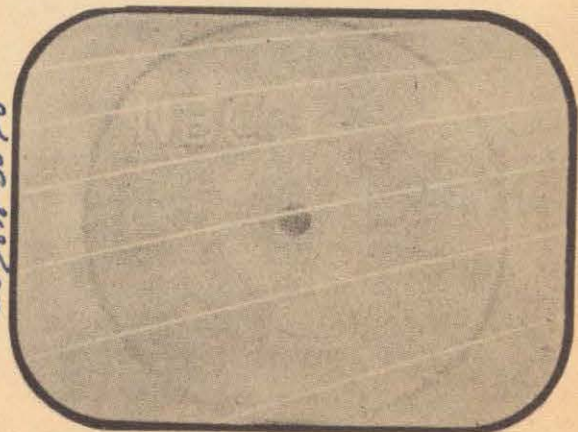

Fig. 8 Brightness Control Misadjusted (Brightness too High)
**BRIGHTNESS CONTROL:** As indicated in the chart of Figure 3, the brightness control is usually made one of the front panel group and is a "user" operated control. It is employed in conjunction with the contrast control to obtain the best possible picture quality. It is possible to cut off the beam with this control, in which case no picture is seen and the tube remains dark. Conversely, too high a setting of the contrast control will result in a light "washed out" picture as shown in Figure 8. In this case the shadows and lower key half tones have disappeared and the vertical retrace lines have become visible.